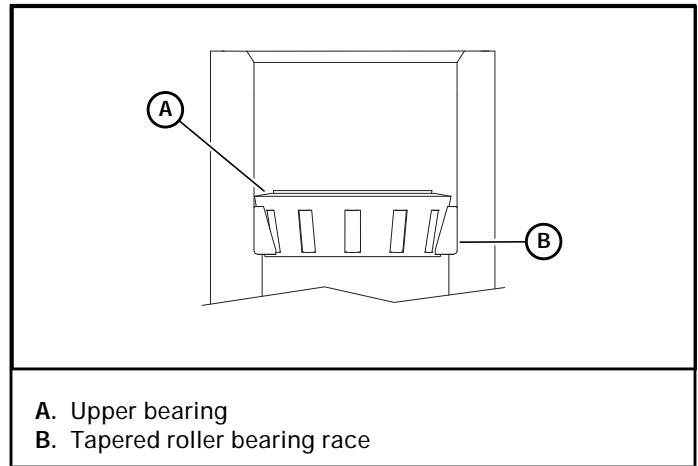

Figure 4-15
10. Install the upper bearing. Figure 4-15